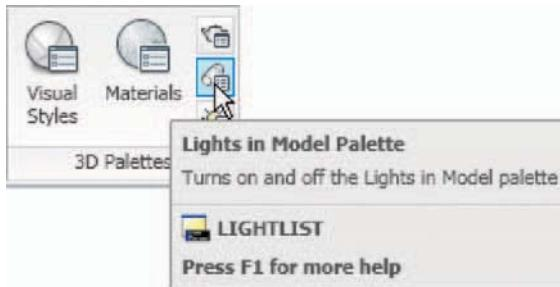
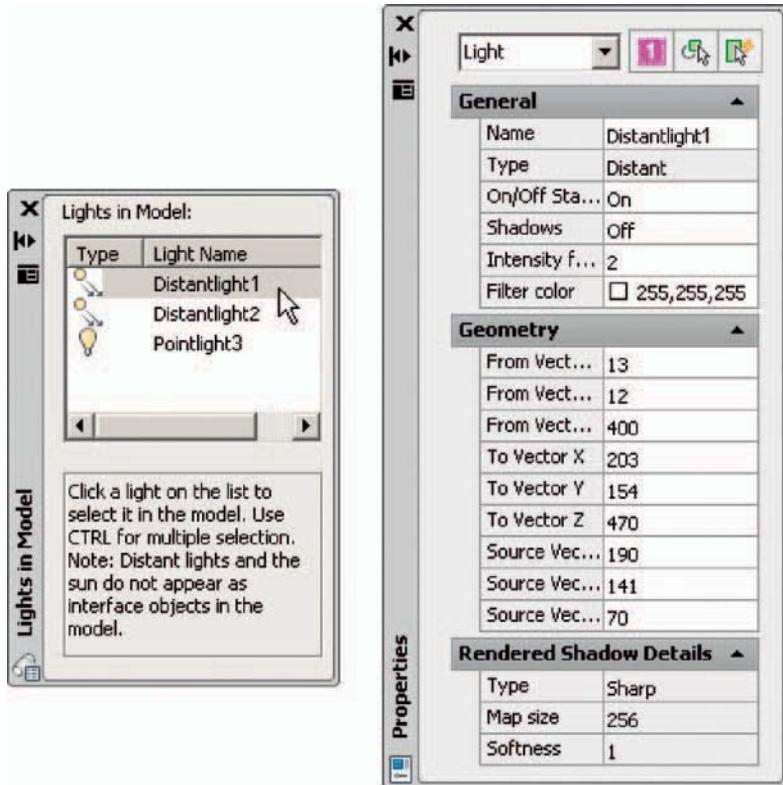

Fig. 15.31 Selecting Lights in Model Palette from the View/3D Palettes panel
Fig. 15.32 The Lights in Model and Properties palettes
7. When the model has been rendered, if a light requires to be changed in intensity, shadow, position or colour, click **Lights in Model** in the **View/3D Palettes** panel (Fig. 15.31) and the **Lights in Model Palette** appears (Fig. 15.32). Double-click a light name and the **Properties**
palette for the light appears in which modifications can be made (Fig. 15.32). Amendments can be made as thought necessary.